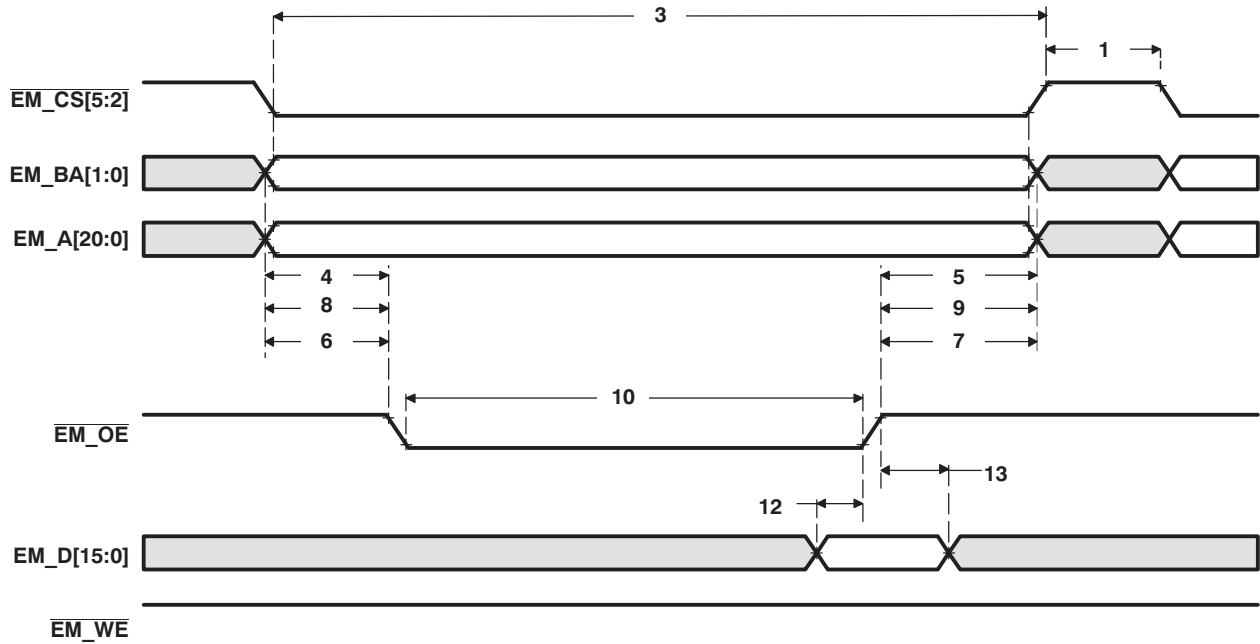
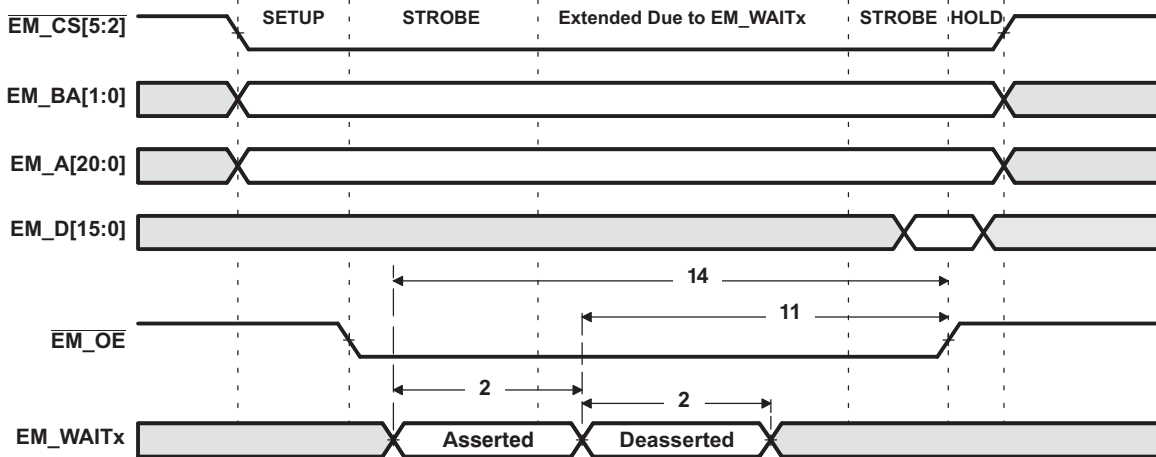
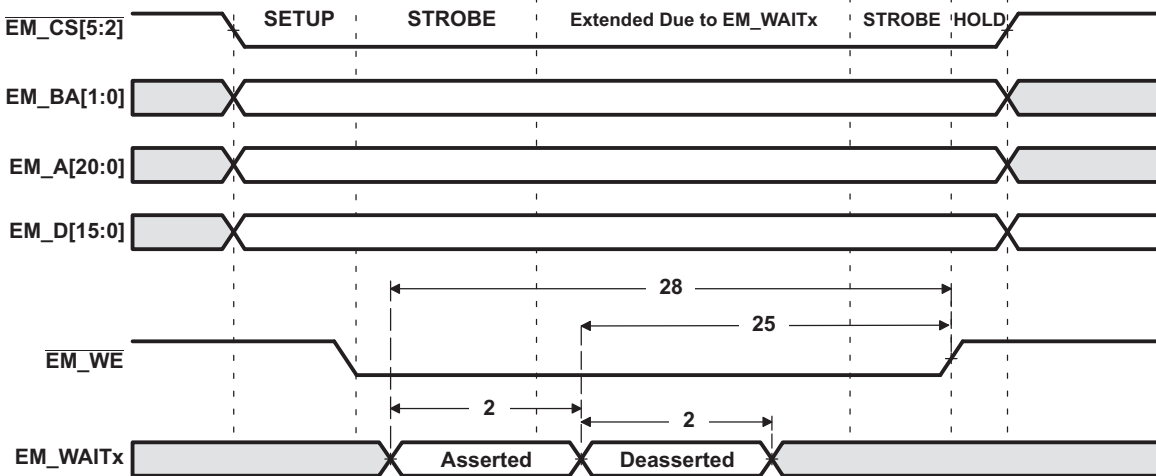

Figure 5-24. Asynchronous Memory Read Timing for EMIF
Figure 5-26. EM_WAITx Read Timing Requirements
Figure 5-27. EM_WAITx Write Timing Requirements
- (1) Timing parameters are obtained with 10pF loading on the EMIF pins.
- (2) E = SYSCLK period in ns. For example, when SYSCLK is set to 75 or 200 MHz, E = 13.33 or 5 ns, respectively.
- (3) Setup before end of STROBE phase (if no extended wait states are inserted) by which EM_WAITx must be asserted to add extended wait states. Figure 5-26 and Figure 5-27 describe EMIF transactions that include extended wait states inserted during the STROBE phase. However, cycles inserted as part of this extended wait period should not be counted; the 4E requirement is to the start of where the HOLD phase would begin if there were no extended wait cycles.
(see Figure 5-24, Figure 5-26, and Figure 5-27)
(see Figure 5-24, Figure 5-26, and Figure 5-27) (continued)
⁽⁴⁾ (see Figure 5-24, Figure 5-26, and Figure 5-27)
(⁴) (see Figure 5-24, Figure 5-26, and Figure 5-27) (continued)**